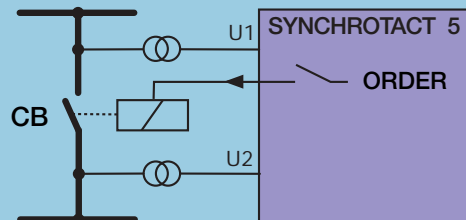

Fig. 2: Paralleling of power lines
2. Automatic paralleling for synchronous and asynchronous lines and busbars (see Fig. 2 below),